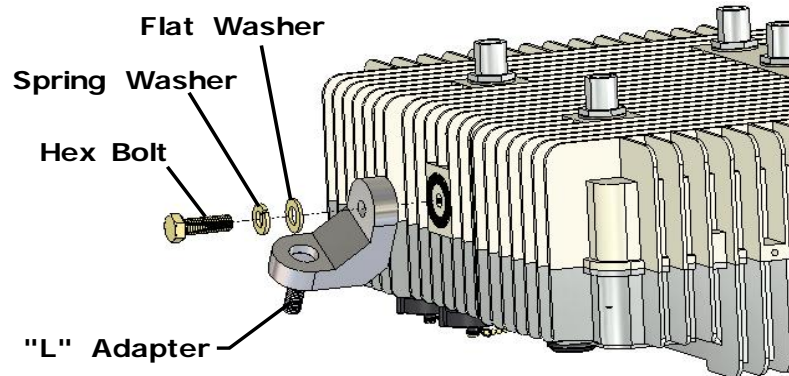

Figure 1: Mount 'L' Assembly
- Attach the 'L' adaptor to the NetPoint Pro 3x2.4 using an M8 x25 hex bolt [G], a spring washer [I], and a flat washer [H], as illustrated in Figure 1.